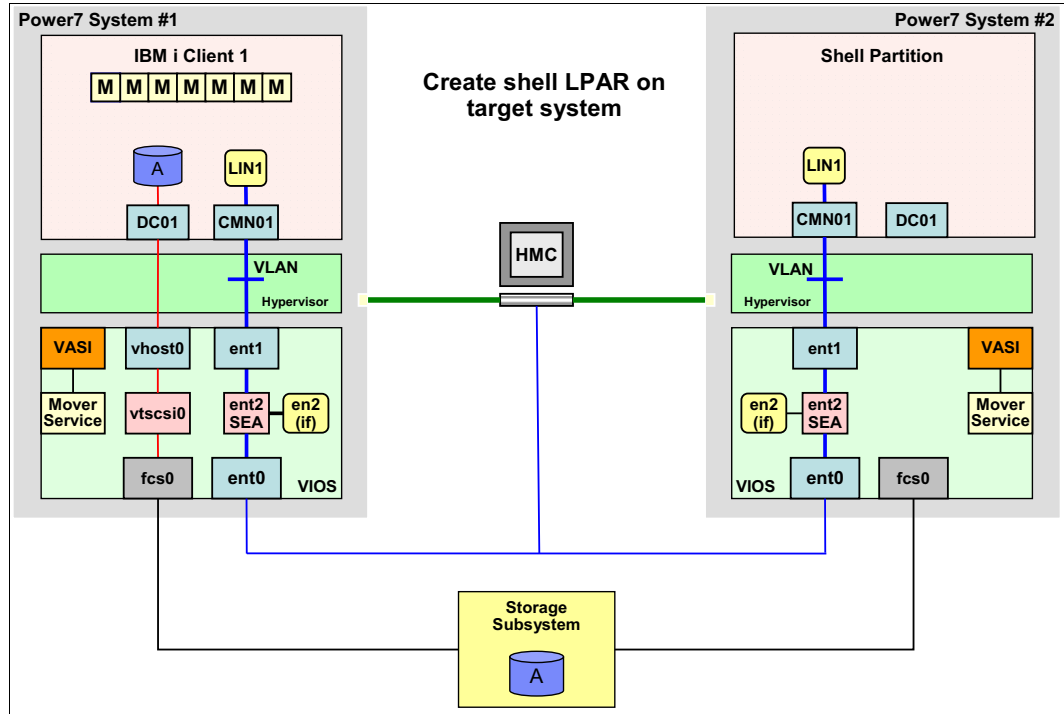

Figure 5-2 Live Partition Mobility, shell LPAR created
- If this check is successful, a shell LPAR is created on System #2, as shown in Figure 5-2.